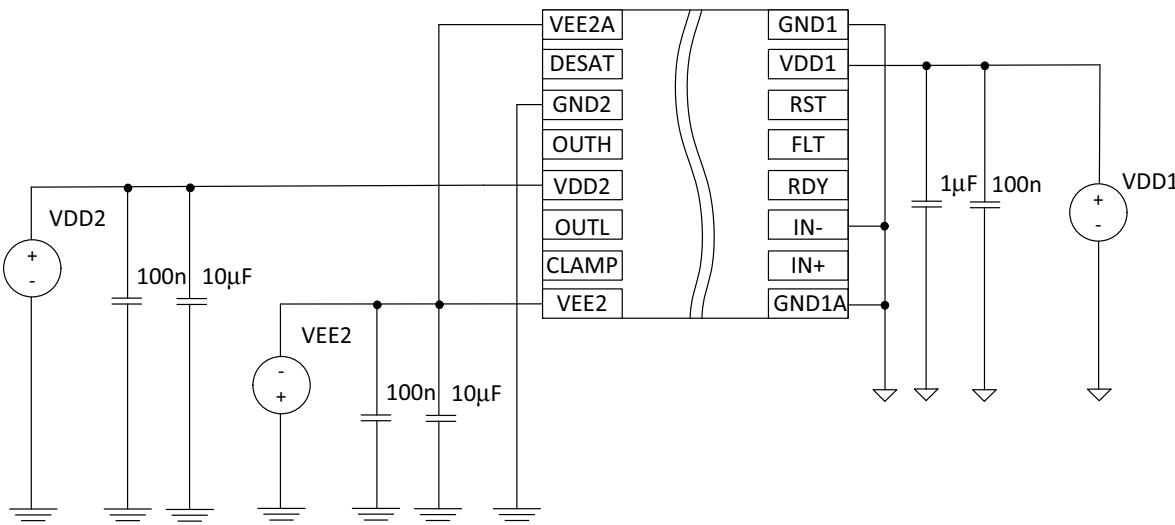

Figure 24. Bipolar Power Supply
- In bipolar power supply the driver is typically supplied with a positive voltage of 15 V at VDD2 and negative voltage -5V at VEE2 (Figure 24). Negative power supply prevents a dynamic turn on throughout the internal IGBT input capacitance.